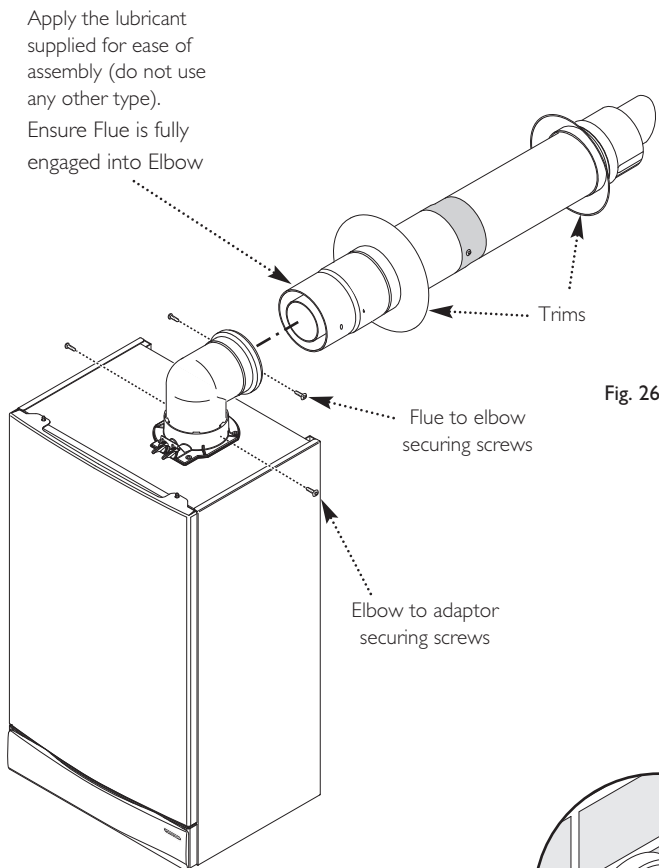
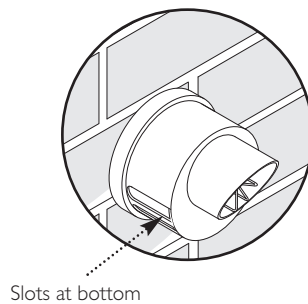

Fig. 26
Fig. 27
14. Draw the flue back through the wall and engage it in the elbow. It may be necessary to lubricate to ease assembly of the elbow and flue (Fig. 26).
15. Ensure that the terminal is positioned with the slots to the bottom (Fig. 27). Secure the flue to the elbow with the screws supplied (Fig. 26).
16. Secure the elbow flue to the boiler adaptor with the screws supplied in the boiler fittings pack (Fig. 26).